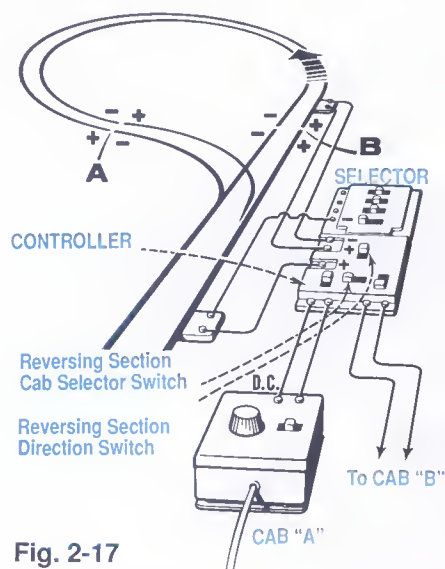
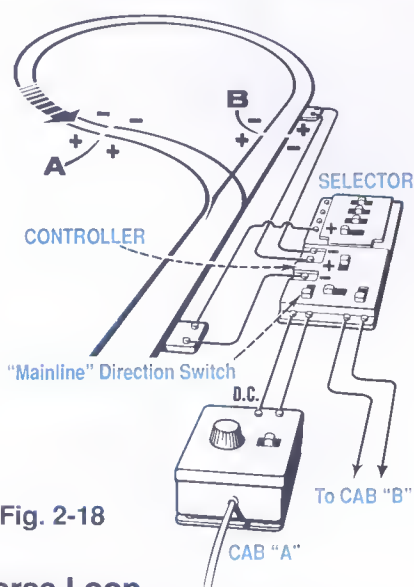

Fig. 2-17
Fig. 2-18
Controller unit, as in Fig. 2-17. With the reversing section direction switch in the position shown in Fig. 2-17, a train can run smoothly into the reversing section. Then, as soon as it is entirely in the reversing section, the main line direction switch on the Controller is thrown (Fig. 2-18) and the polarity at the exit of the loop (A) is now correct. The train now can proceed back onto the main-line without interruption.